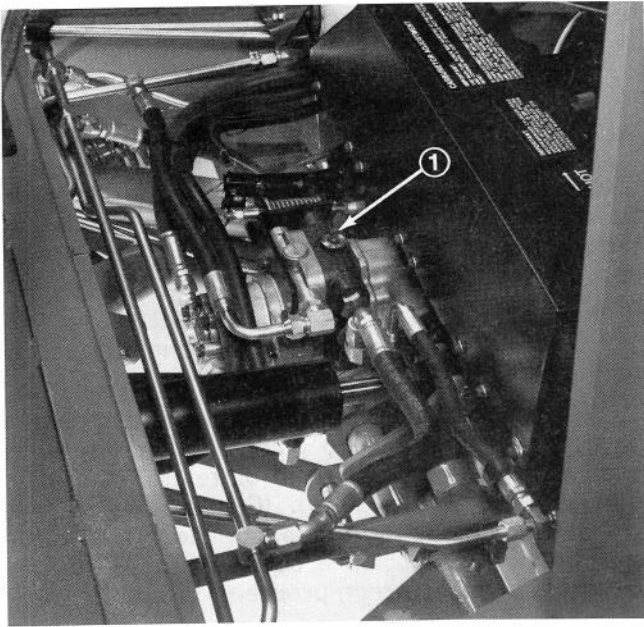

Figure 57
3. Unlatch and open the engine cowl and remove the floor plate. Turn the Bypass Valve until the flats on the valve stem face forward and rearward (pushing or towing mode) to prevent the machine from moving, install floor plate and close the engine cowl (Fig. 57).